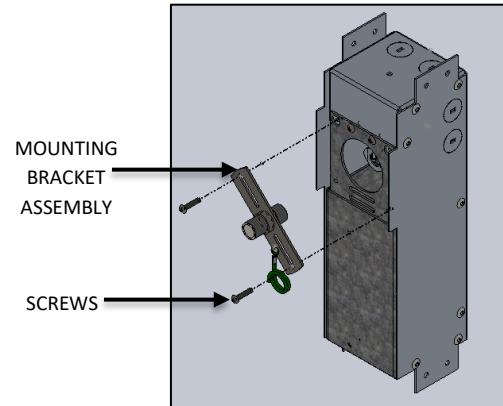

FIG. 6 - MOUNTING BRACKET DISASSEMBLY
2. Remove the Screws securing MOUNTING BRACKET ASSEMBLY, and slide MOUNTING BRACKET ASSEMBLY out of J-BOX as shown in FIG. 6.